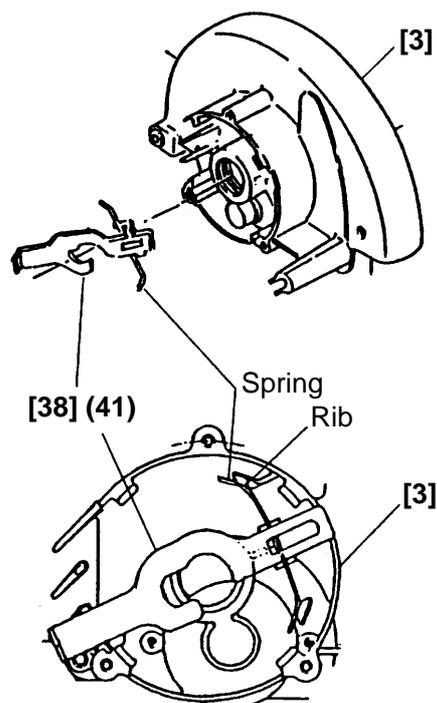

Fig. 7
(3) Reassembly of the Lock Lever [38] (41) (See Fig. 7)
- Position the Lock Lever [38] (41) between the fan and the 6001VVCMP2L Ball Bearing [39] (42) of the Armature [37] (40), and carefully assemble it together with the Armature [37] (40) into the Gear Cover Ass'y [3].
- Ensure that both ends of the Spring on the Lock Lever [38] (41) are properly supported inside the ribs of the Gear Cover Ass'y [3].
- After assembly of the Lock Lever [38] (41) has been completed (when the Gear Cover Ass'y [3] is assembled to the Housing Ass'y [28] (30) and fastened with the M5 x 45 Machine Screws [25] (27)), push the Lock Lever by hand and ensure that it returns to its original position when released.